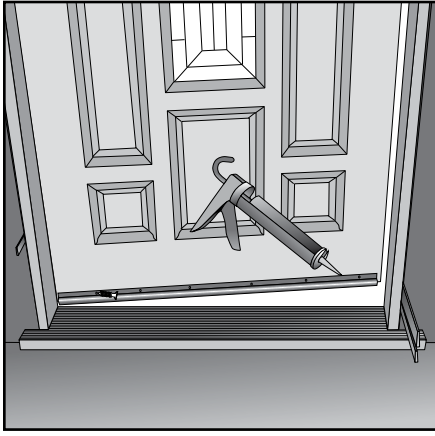

Fig. 33
B. Install the door sweep onto the bottom of the door. Attach using 1/4" screws on face of door sweep. Run a bead of caulk on the top exterior outer edge to prevent water from entering the sweep **(Fig. 33)**. **6. Installing exterior and interior trim**